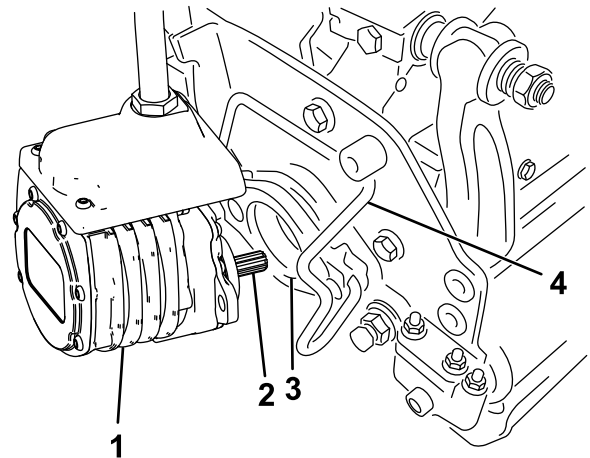

Figure 53
6. Coat the spline shaft of the cutting unit motor with clean grease (Figure 53).
7. Insert the motor into the left side of the cutting unit (as viewed from the operator's position) and pull the motor retaining bar on the cutting unit toward the motor until you hear a click from both sides of the motor (Figure 53).